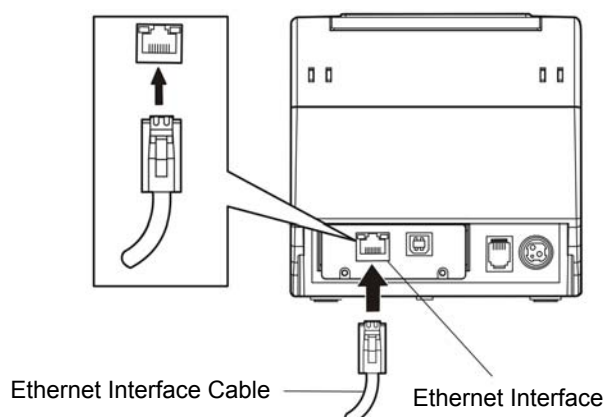

Figure 2-6 Connecting the Ethernet interface cable
1. Plug the crystal end of the Ethernet interface cable (RJ-45) into the printer's Ethernet interface as shown in Figure 2-6.